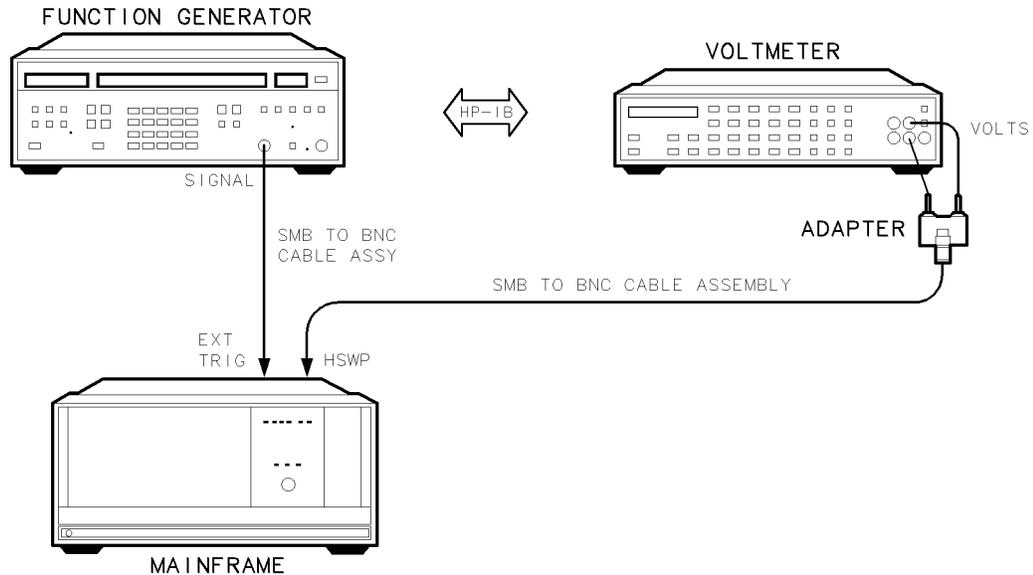

Figure 7-12. External Triggering Test Setup
1. Connect the HP 3325B synthesized function/sweep generator's SIGNAL output to the DUT's EXT TRIG input, as shown in Figure 7-12.
2. Connect the HP 3456A digital multimeter to the DUT's HSWP output using the adapter, as shown in Figure 7-12.